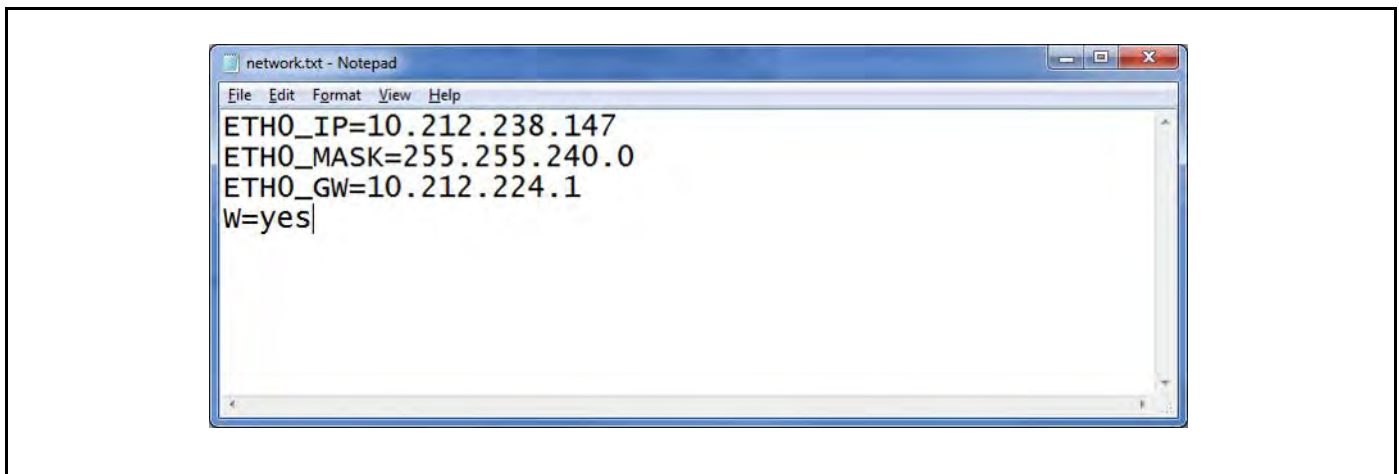

Figure B-6 - Network.txt Notepad
1. Create a “network.txt” with your desired settings (**Figure B-6** -):